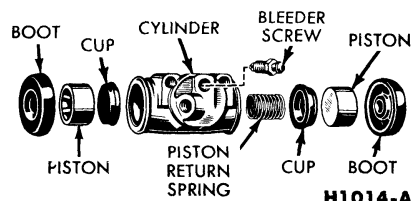

FIG. 12 Double Servo Brake Cylinder
1. With the wheel cylinder removed, remove the rubber boots from the ends of the brake cylinder. Remove the pistons, cups, and piston return spring from the cylinder (Fig. 12).
2. Install the bleeder screw (Fig. 12) in the brake cylinder.